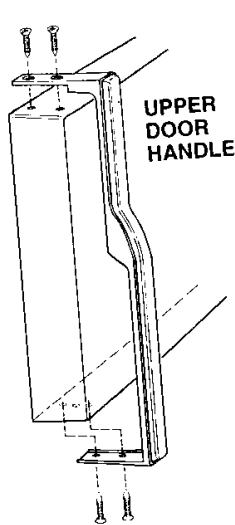
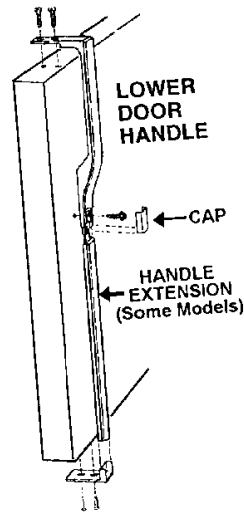

Fig. 13
Fig. 14
2. Remove the handles from the doors and set aside. (See Fig. 13 and Fig. 14.) On some models the bottom mounting screw on the lower door handle is covered with a cap. Carefully pry it out to expose the screw. The cap should be saved for reassembly after the handle is remounted. On the side (front) of the lower door where you are going to install the handle, remove the small round screw hole plug going to install the handle, remove the small round screw hole plug with a putty knife and press it into the corresponding hole on the opposite side of the door. If your model has side mount handles, the screw heads are covered with plastic caps that should be carefully removed and saved for reassembly after the handles are remounted. On the side of the door that you are going to install the handle, remove the small round screw hole plugs with a putty knife and press them into the corresponding holes on the opposite side